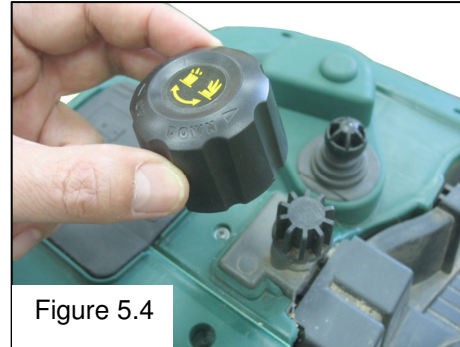

Figure 5.4
- Remove the cutting height adjustment knob by lifting it upwards (figure 5.4)